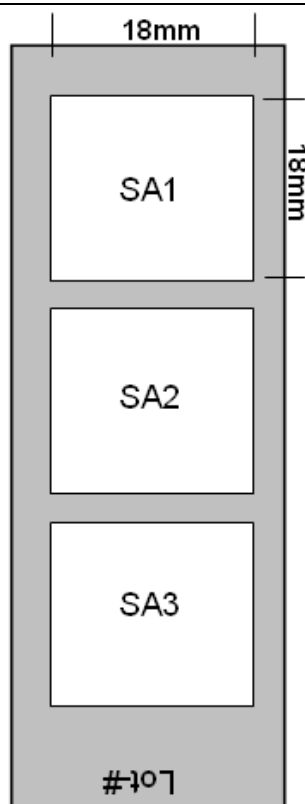

Figure 2: Schematic layout of a peptide microarray (SA=subarray).
Please refer to the .gal-file provided with the product documentation for identity and location of the spots on the microarray surface. The microarray side carrying the engraved label represents the surface displaying the attached peptides. The .gal-file can be opened using microarray evaluation software-modules capable of evaluating high-density microarray slides or the GalViewer-software. Since .gal-files are tab-separated text files, they can also be processed with software modules such as Microsoft Editor (Notepad) or Microsoft Excel. A schematic layout of the peptide microarray is shown in Figure 2.
As shown in Figure 2 the peptide microarray is printed in three identical subarrays (SA). This enables highly efficient intra-chip-reproducibility tests using scatter plots or correlation functions.